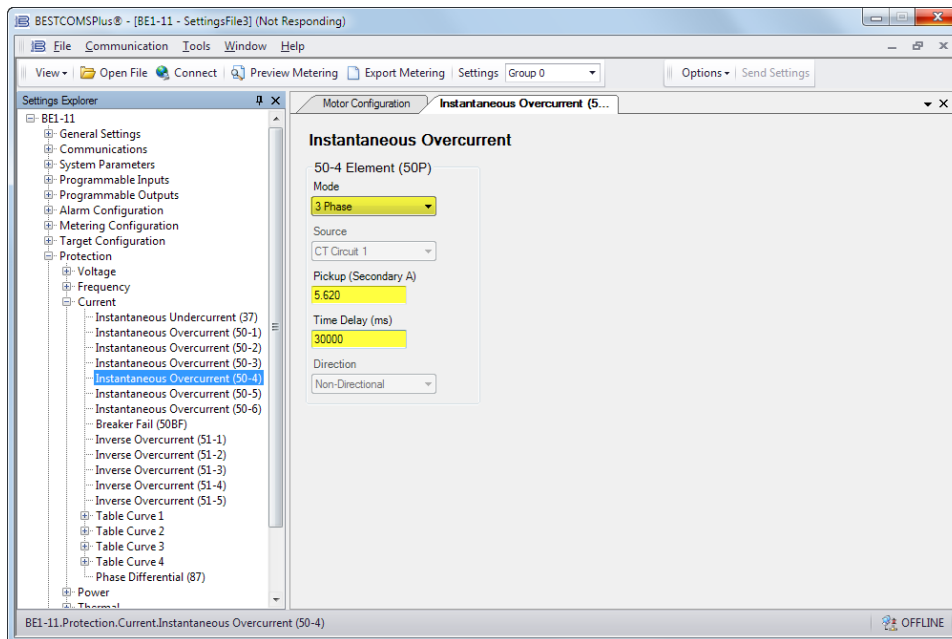

Figure 2-11. Instantaneous Overcurrent (50-4) Screen
Step 7: In the Settings Explorer, expand Protection, Current and select the Instantaneous Overcurrent (50-4) screen. See Figure 2-11.